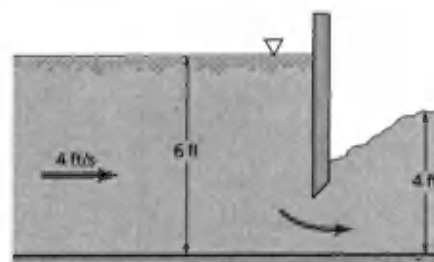

FIGURE P5.10R
5.10R (Linear momentum) Determine the magnitude of the horizontal component of the anchoring force required to hold in place the 10-foot-wide sluice gate shown in Fig. P5.10R. Compare this result with the size of the horizontal component of the anchoring force required to hold in place the sluice gate when it is closed and the depth of water upstream is 6 ft.